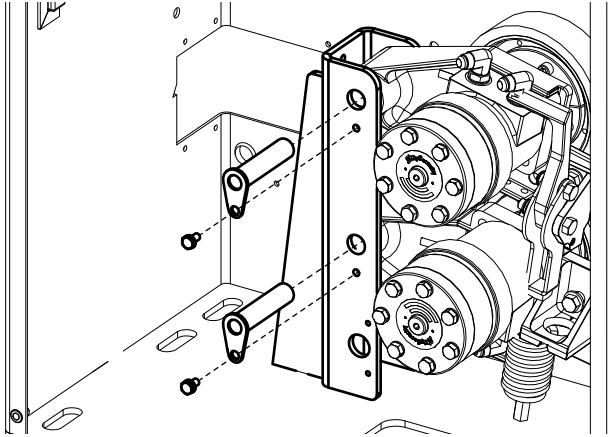

Figure 5. Remove Pivot Arm Pins
7. Remove the pins. Lift the pivot arms to make the pins easier to remove (Figure 5).